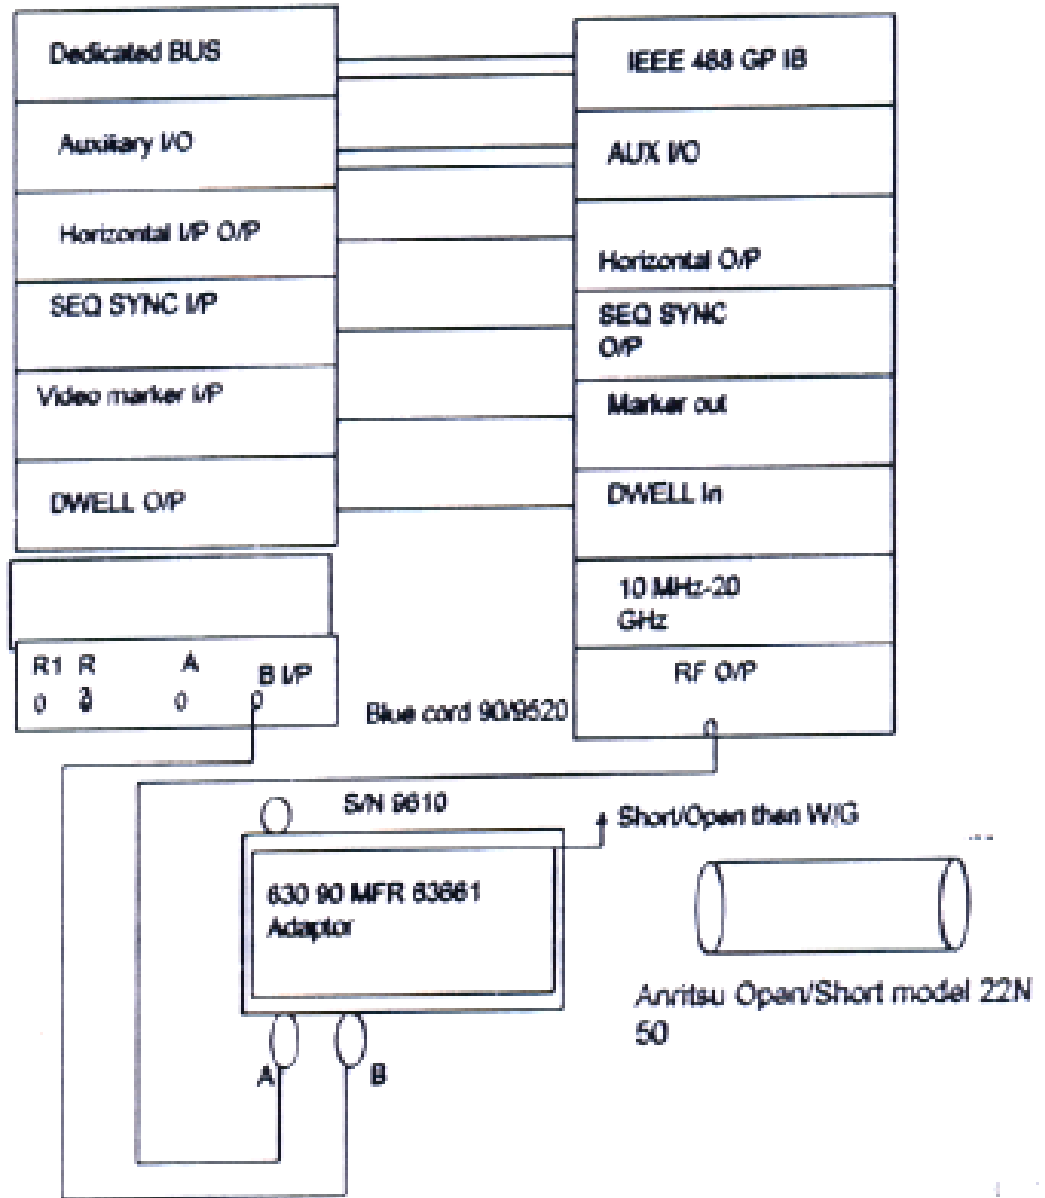

Fig. 7-12
- Wiltron Generator: - See Fig. 7-12, 7-13.